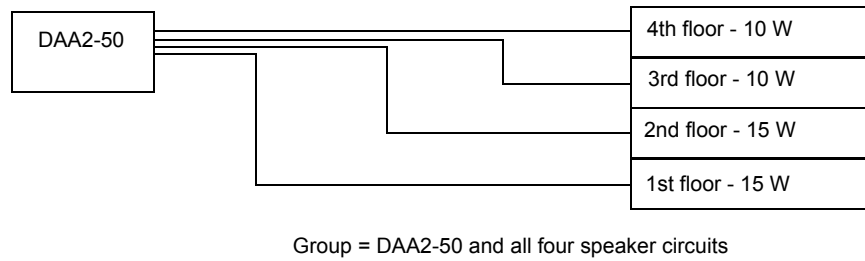

Figure D.2 DAA2 - One Amplifier and All Speaker Circuits per Group, No BDA
2. Figure D.2 shows a group that consists of a DAA2 amplifier and all its speaker circuits. The load on all four speaker circuits does not exceed the DAA2's 50 watt capacity. This group is capable of broadcasting one channel at a time.